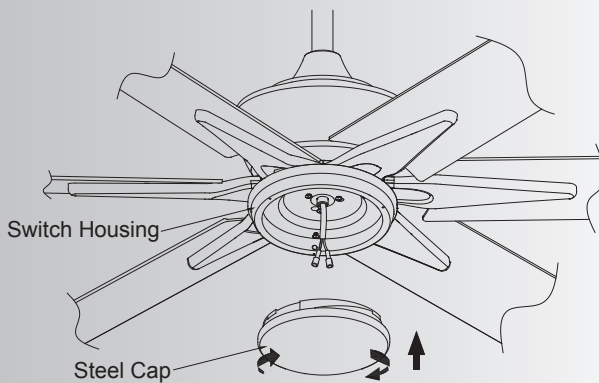

Fig. 23
Step 4. If you want to install the steel cap and not the light kit. Assemble the steel cap to the switch housing by twisting in a clockwise direction. (Fig. 23)